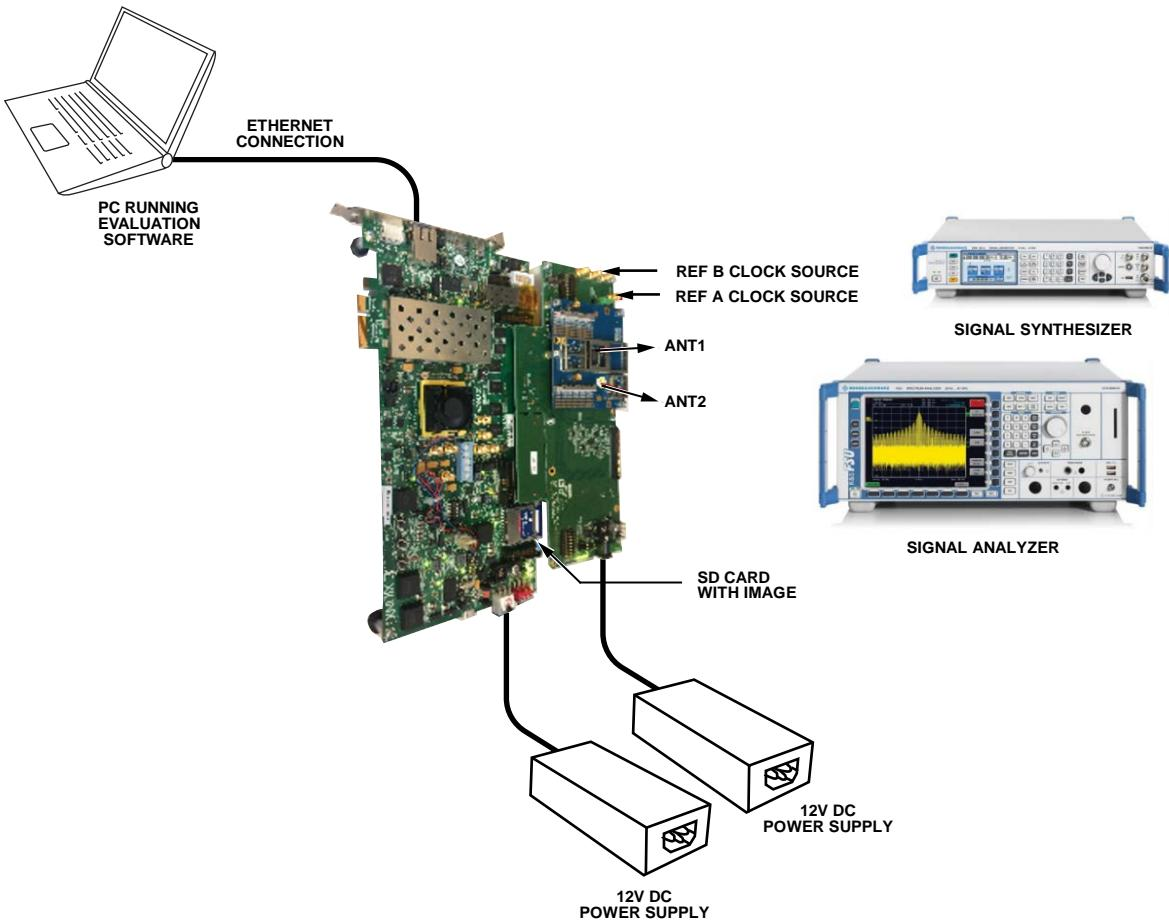
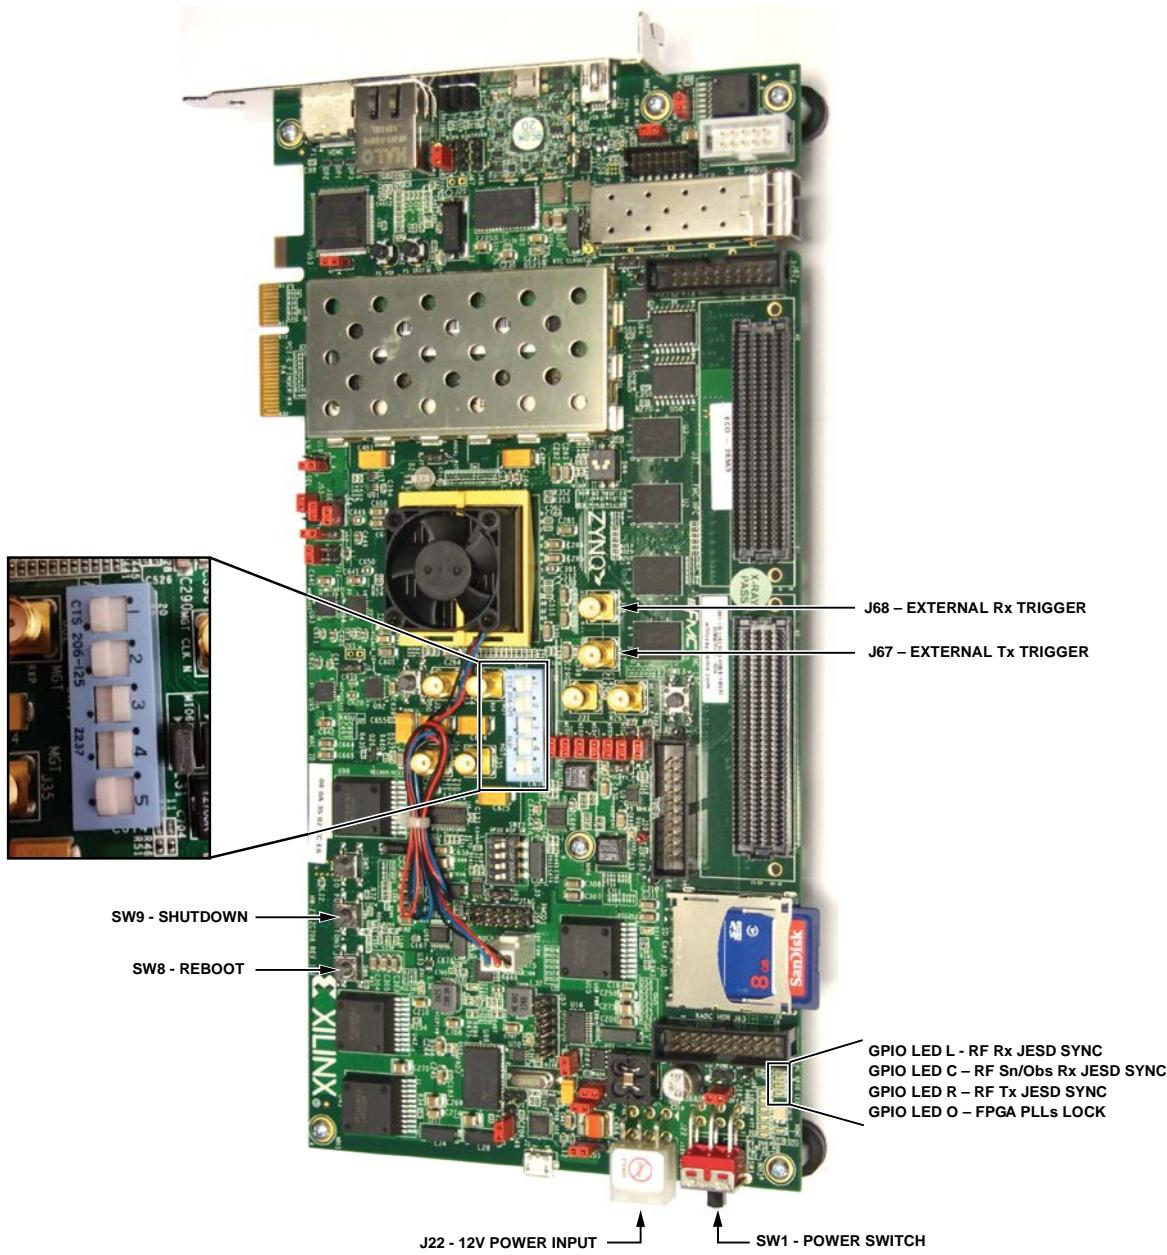

Figure 8. Hardware Connection Diagram
Figure 9. Xilinx ZC706 Zynq Evaluation Board with Jumper Settings and Switch Position Configured to Work with the ADRV-DPD1/PCBZ
The hardware setup is shown in Figure 8. The Xilinx ZC706 Zynq evaluation board, shown in Figure 8 and Figure 9, is an older model of the EVAL-TPG-ZYNQ3, but the two boards are otherwise identical in terms of connections and compatibility.
2. Ensure that all jumpers on the EVAL-TPG-ZYNQ3 are configured as shown in Figure 9, and Switch 1, Switch 2, and Switch 5 are set to the A position and that SW1 is set as shown in Figure 9.
3. Insert the secure digital (SD) card into the EVAL-TPG-ZYNQ3 and connect the interposer board to the connectors on the EVAL-TPG-ZYNQ3, and the radio board to the interposer board using the high pin count (HPC) FPGA mezzanine card (FMC) connectors, as shown in Figure 8. Ensure that the connectors are properly aligned.
- d. LED status during normal operation is represented on the EVAL-TPG-ZYNQ3 by the following (see Figure 9):
4. For transmitter testing, connect a spectrum analyzer to either transmitter output on the ADRV-DPD1/PCBZ. Use a low loss $50\ \Omega$ SMA coaxial cable to connect the spectrum analyzer. It is recommended that the power amplifier (PA) be disabled while initial calibrations are running to prevent high power test tones from appearing at the antenna. The SMA cable attaches to the SMA F to SMP F adapter and into either Antenna Connection 1 or Antenna Connection 2 on the radio board.
5. Shutdown must be executed using the SCES software. Alternatively, the user can shut down the Zynq system using the SW9 push button (see Figure 9). These shutdown
methods prevent corruption of the SD card. The shutdown takes 25 sec. When the EVAL-TPG-ZYNQ3 LEDs blink simultaneously, the user can safely turn off the evaluation system by switching SW1 off (see Figure 9), and turn off the interposer board by switching the power supply off.